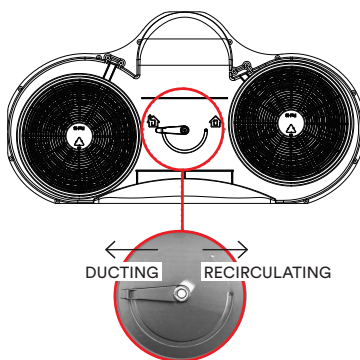

Figure 4
Recirculation extraction is not compatible for this model. Before installation, please ensure that the extraction mode is set to Ducting using the adjuster on the motor (Figure 4).
2. Turn the switch in the centre of the motor housing to External Ducting position (Figure 4).